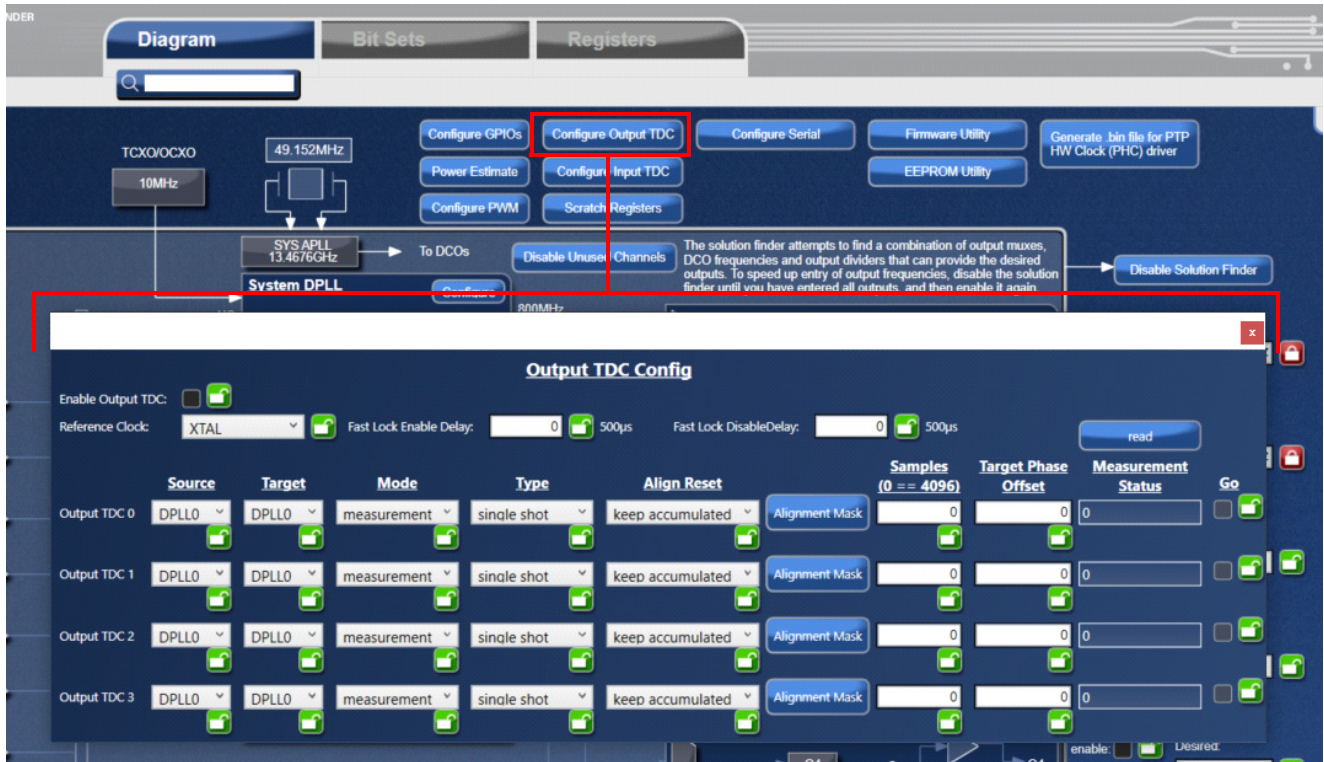

Figure 17. Output Timing-to-Digital Converter (TDC) Configuration Window
- Output Timing-to-Digital Converters (TDCs) are digital phase detectors that have numerous applications (see Figure 17)